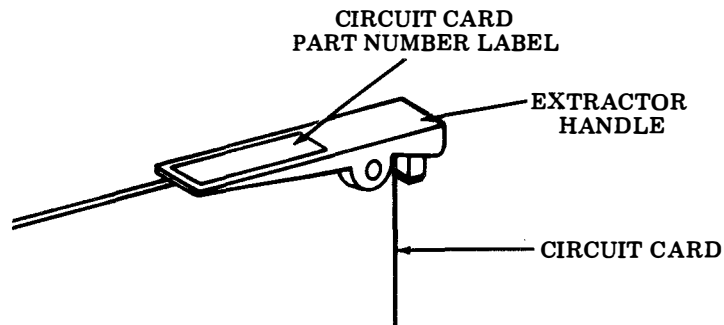

Fig. 4 -- Label Location
④ Remove old part number label (Fig. 4) from the extractor handle.
- ④ Remove old part number label from the extractor handle. (See Fig. 4 on page 6.)
- ⑤ Replace with 341749 - "410009" Identification Label.